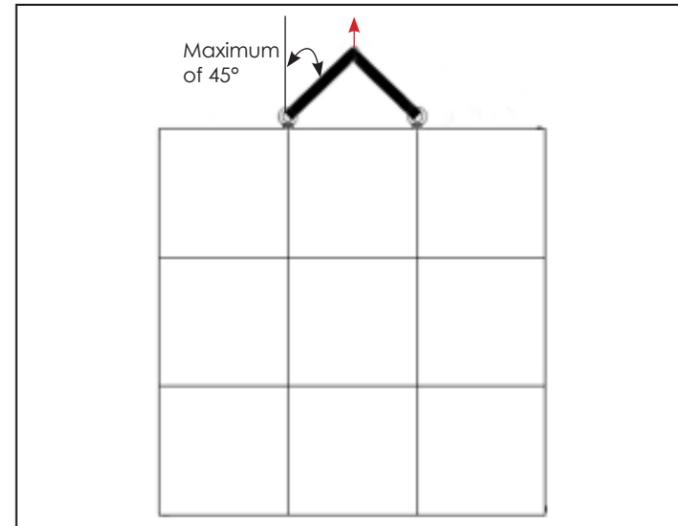

Figure 3: Lift with Chains
- Use chains, cables, or straps with sufficient weight capacity. Refer to **Figure 3** and **Section Sizes & Weight Estimates (p.1)**.
- Lift at a minimum angle of 45° between each line and the sections. Refer to **Figure 3**.